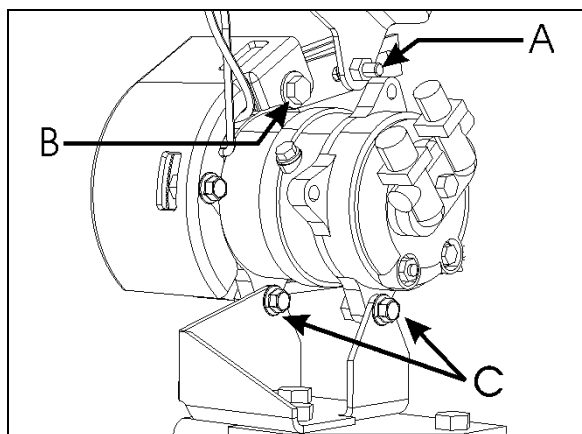

FIGURE 35: COMPRESSOR REMOVAL OR INSTALLATION 22349
- * Slacken bolts A (Refer to figure 35).
- * Remove bolts B & C (Refer to figure 35).